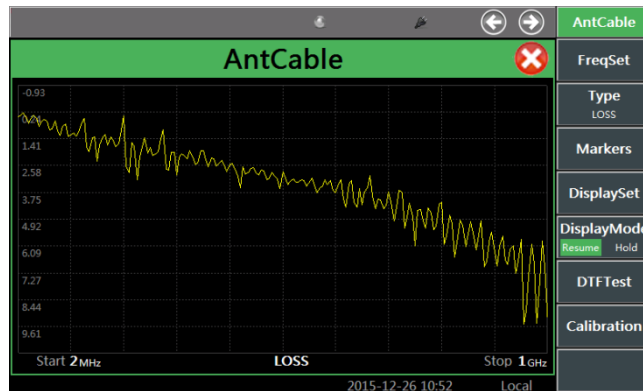

Fig. 4-18 Cable Loss Test Results
- Calibration: click the [Calibration] soft key in the right menu and then click [Start Calibration]. Connect the calibration kit according to the prompt. After calibration, connect the tested cable to the test instrument. In order to ensure the accuracy of cable loss measurement, connect the terminal of the tested cable to the open-circuit or short-circuit device. The measured cable loss curve will be displayed on the test instrument, as shown in Fig. 4-18.